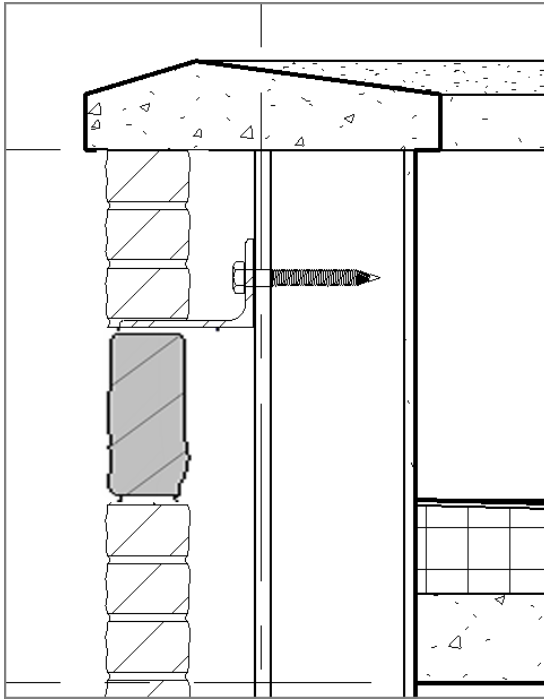

FIGURE 12.39: Inserting the lag bolt
4. Insert the lag bolt into the angle, as shown in Figure 12.39.